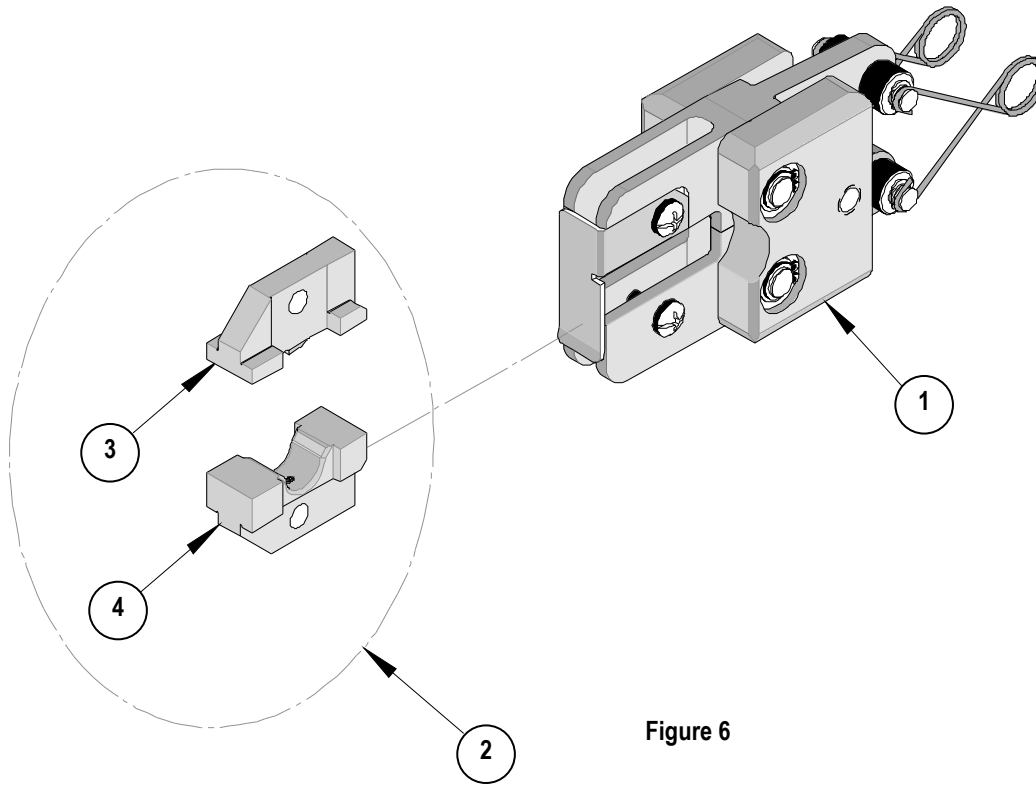

Figure 6
- Make certain all pins, pivot points and bearing surfaces are protected with a thin coat of high quality machine oil. Do not oil excessively. This tool was engineered for durability, but like any fine piece of equipment it needs cleaning and lubrication for a maximum service life of trouble-free crimping. A light oil, such as 30 weight automotive oil used at the oil points shown in Figure 6, every 5,000 crimps or monthly will significantly enhance the tool life and ensure a stable calibration.